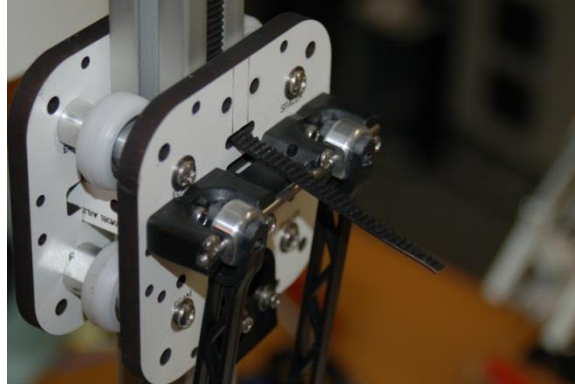

Figure 82 - Belt inserted in top of Cheapskate
18.8 - Attach the long end of the belt to the Cheapskate. Remove the upper belt clamp and route the belt up to the top idler, passing to the inside of the Cheapskate and fish that poor belt through that tiny, tiny slot. Note that Fig. 82 shows the belt teeth facing away from the rail, this is an error! The belt teeth should be facing **IN** towards the rail.